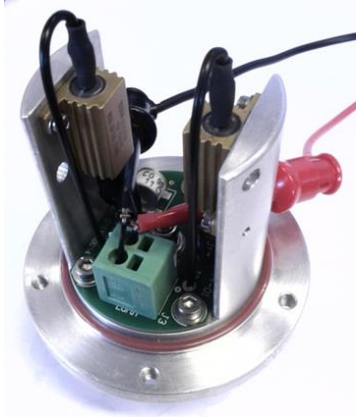

Figure 9-42: Bushing adaptor measurement
1. Connect the clips to the Bushing Adaptor using the short cables in the adaptor’s connector as shown in Figure 9-42.